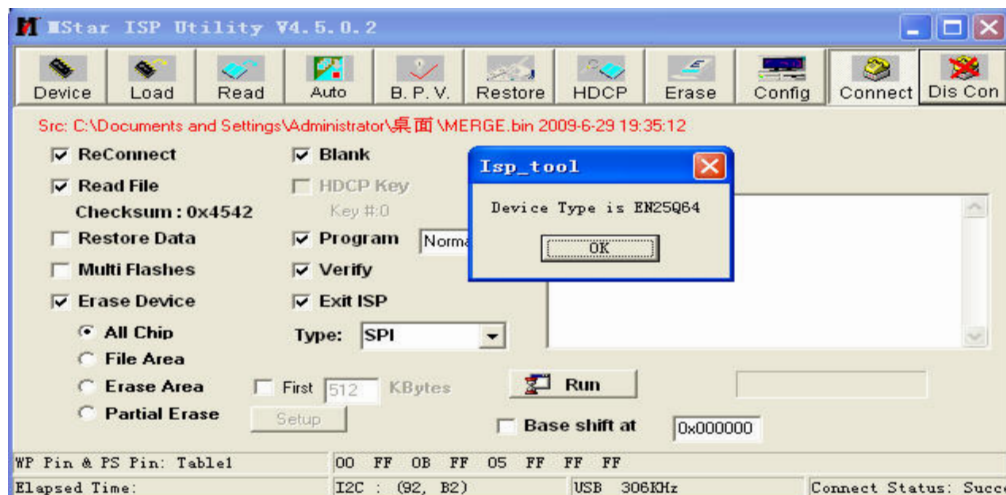

Fig. 3 Device **EN25Q64** successful connection
- 3) Select menu **“Connect”**, a dialog **“Device Type is EN25Q64”** will be displayed as **Fig. 3**, that is